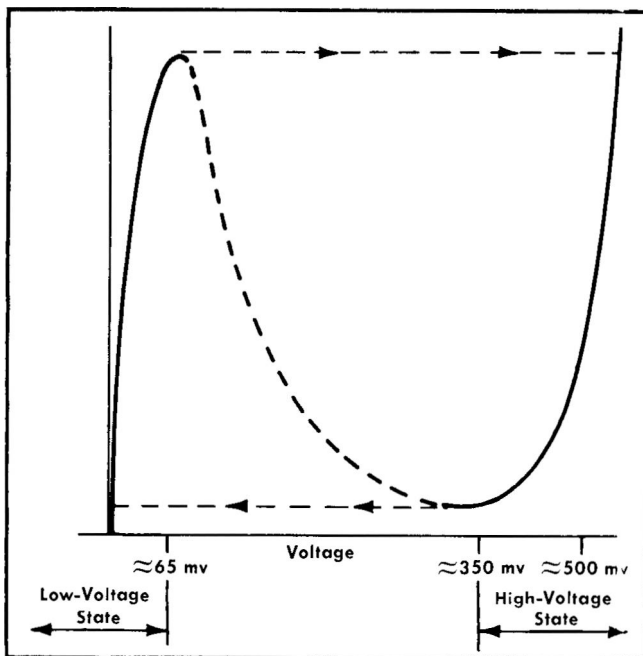

Fig. 3-2. Tunnel diode characteristics.
Tunnel diode D45 is biased to its low voltage state by current through R32, R33, R45, and R42. If the comparator stages are unbalanced in such a manner as to cause Q34 to conduct, an additional current flows through D45. This additional current biases D45 to its high voltage state (see Fig. 3-2 for tunnel diode characteristic curve).
Circuit Operation SN 101-6739. In operation, V24A and V24B form a push-pull amplifier which drives a push-pull input, single-ended output amplifier consisting of Q34 and Q44. Tunnel diode D45 is biased at its low-voltage state (see Fig. 3-2 for trigger tunnel-diode curve) by current flow through the voltage divider consisting of R44, R45, R47, and R48. When the desired slope of the triggering signal selected arrives at the grids of V24, V24B and Q44 are biased into conduction. The conduction of Q44 increases the current flow through D45, and D45 switches to its high-voltage state. The sudden voltage change across D45 as it switches to its high-voltage state produces a uniform fast-rising trigger pulse which is used to trigger the main time base (B) sweep generator.